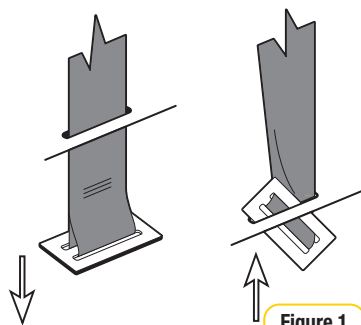

Figure 1
Step 1: From the underside of the restraint pull each crotch 3-bar slide then turn 3-bar slide and push through each slot to remove the Harness Buckle from the restraint (refer Figure 1).